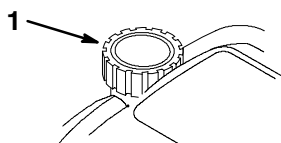

Figure 43
7. Fill the fuel tank (Fig. 43) with fresh, clean gasoline.